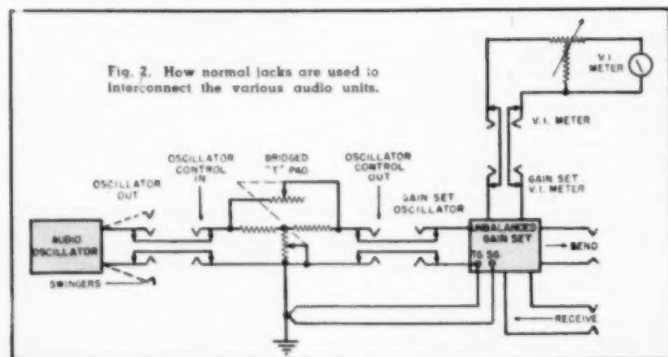

Fig. 2. How normal jacks are used to interconnect the various audio units.
Fig. 2. Effect of limiter action on varying limiter input signals. (A) Noise voltage reproduced in the output of limiter. (B) Noise is removed by limiter action. Note that when the input level of the I.F. signal over the entire range of frequency deviation is above the limiter threshold, as in (B), no noise voltage is reproduced in the output of the limiter but when the input level of the I.F. signal is below the threshold of limiter action, the limiter cannot function and the noise will be reproduced as shown in (A).
Fig. 2 illustrates the manner in which normal jacks are used to connect these pieces of equipment together into a continuous circuit, so that all units are permanently interconnected, yet may be operated independent of each other, if desired. The use of normal jacks also provides a means of substituting equipment in case of failure of any one unit normally used. The normal springs of the jacks at the output of the oscillator are connected to the normal springs of the oscillator control input jacks. The output of the control is then normalled to the gain set oscillator jacks.
When it is desired to pick up only the oscillator, a patch cord is inserted in the oscillator output jacks. When the tip of the patch cord plug enters the jack, it moves the "swingers" outward, breaking the circuit between it and the normal spring, as shown by the dotted lines in Fig. 2. This action disconnects the oscillator output from the oscillator control, and allows the oscillator to be picked up independently of the control. The same action will take place if a patch cord is inserted in any other portion of the circuit.